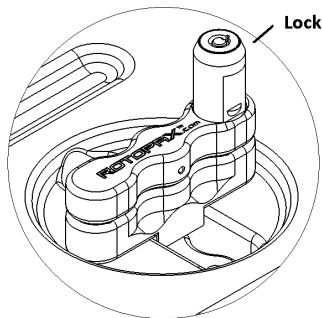

Figure 18
Step 3 - Insert lock into the hole and push down until you hear the lock snap into place. The handle is now locked (see **Figure 18** and **19**).